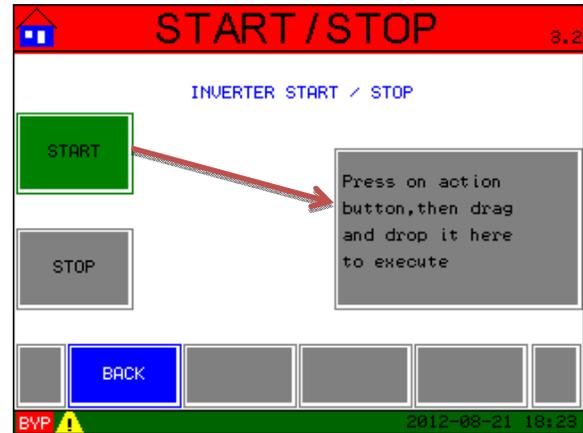

Fig. 4-13
Step 4: The **START/STOP** screen (Fig. 4-13) will now appear. To actually execute the start sequence the “start” action button must be pressed AND dragged to the larger gray square to the right.